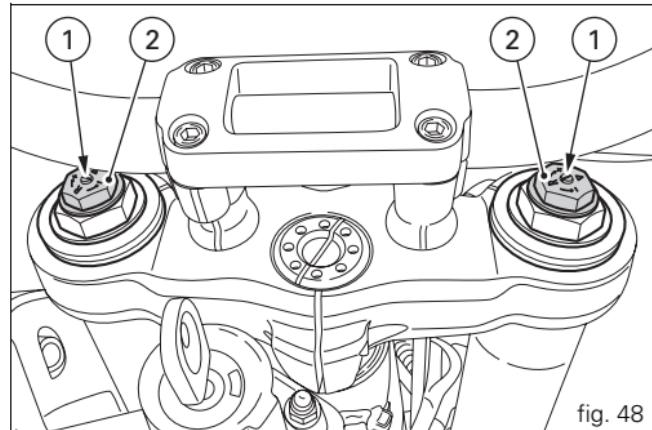

fig. 48
- 1) to adjust rebound damping (fig. 48);
- 2) to adjust inner spring preload (fig. 48);
To change the preload on the inner spring for each fork leg, turn the adjuster at the hex end (2, fig. 48) with a 22 mm hex spanner.